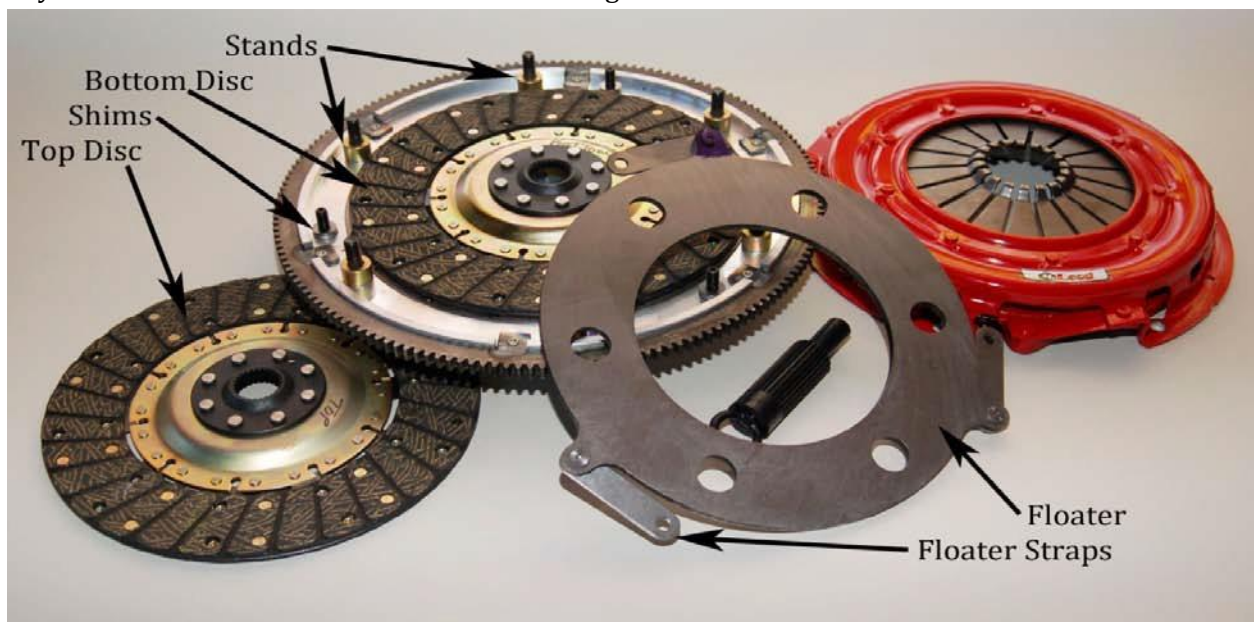

Figure 3
- 5) Remove the bottom disc. Notice the hub on the disc is cupped toward the transmission. Also note the "Flywheel Side" sticker on the disc center. See Figure 3